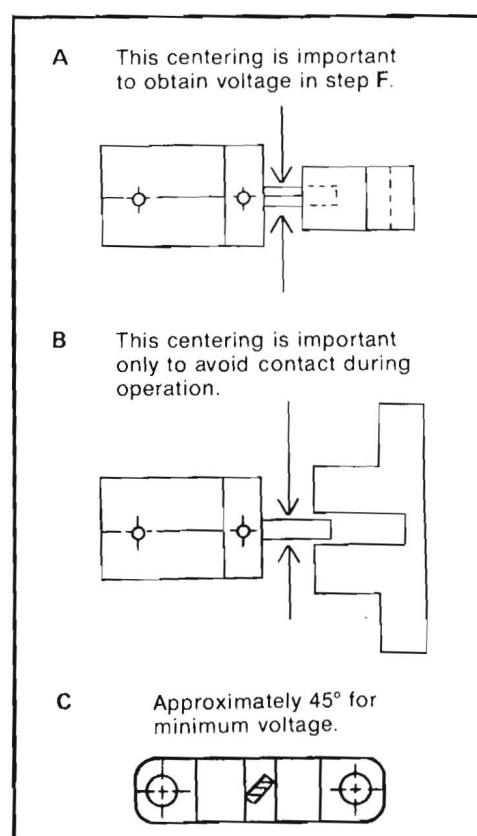

Figure 7-8. Constant Tension Adjustment Procedures.
- E. Check that the optical grating is rotating in the center of the opto coupler slot as shown in Figure 7-8 A and B.